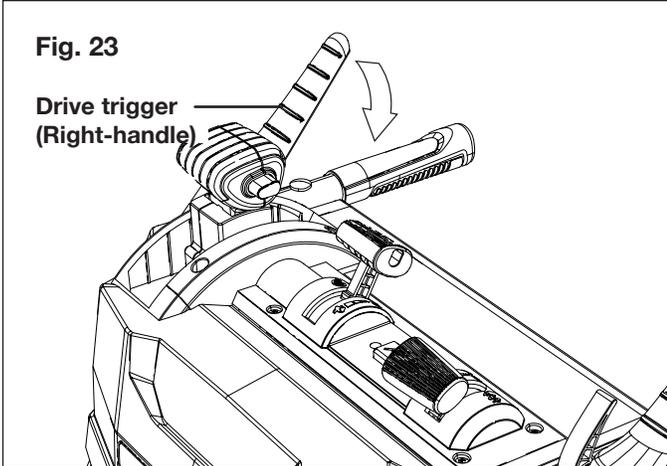

Fig. 23
- Squeeze drive trigger against the right-handle and the snow blower will move (Fig. 23). When the blower is moving steadily, you can release the drive trigger while keep the auger trigger squeezed to maintain the snow blower's movement. Release the auger trigger and both the drive motion and plow motion will stop.